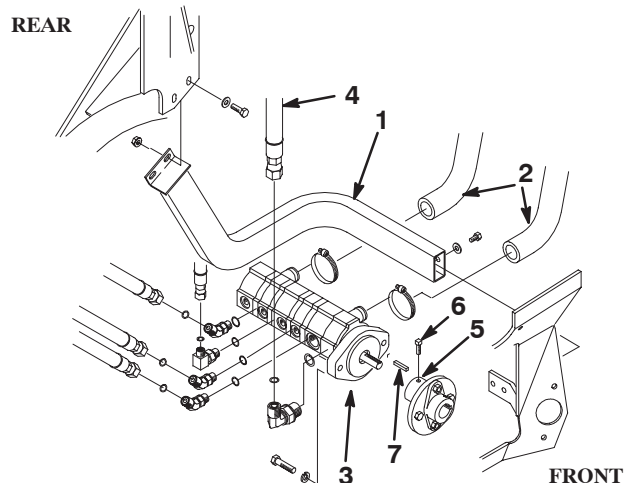
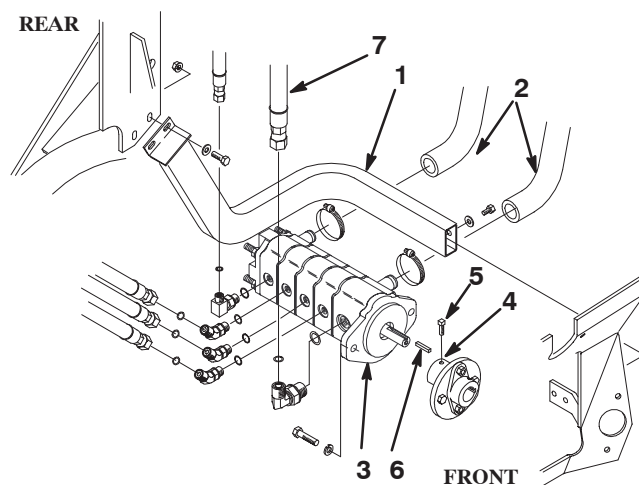

Figure 1
Figure 2
3. Remove the capscrews, flat washers and nuts securing each end of the gear pump guard to the frame (Fig. 1).
4. Remove the hose clamps securing the pump inlet hoses to the gear pump (Fig. 1). Disconnect the hoses from the pump.
5. Disconnect the hydraulic hoses from the pump fittings (Fig. 1).
6. Disconnect and remove the hydraulic hose from the control valve, as shown in figure 1. Install the new hydraulic hose to the control valve (Fig. 2).
7. Remove the fittings from the pump (Fig. 1).
8. Loosen the set screw securing the pump shaft to the pump hub (Fig. 1).
9. Remove the two capscrews and lock washers securing the gear pump flanges to the pump adapter (Fig. 1).
10. Remove the gear pump. Make sure to account for the square key on the pump shaft (Fig. 1).
11. Install the new gear pump and previously removed square key to the pump hub (Fig. 2).
12. Using the two new capscrews (included in kit) and old lockwashers, secure the gear pump to the pump adapter (Fig. 2).
13. Tighten the set screw securing the gear pump shaft to the pump hub (Fig. 2).
14. Install the fittings to the pump **reversing the location of the two rear fittings** (Fig. 2 & 3).
15. Install the hydraulic hoses to the fittings **reversing the location of the two rear hoses** (Fig. 2 & 3).
16. Mount the inlet hoses to the pump with the previously removed clamps (Fig. 2).
17. Mount the new pump guard to the frame with the capscrews, flat washers and nuts previously removed. Rear mounting flange of guard is to be positioned to the outside of the frame plate (Fig. 2).